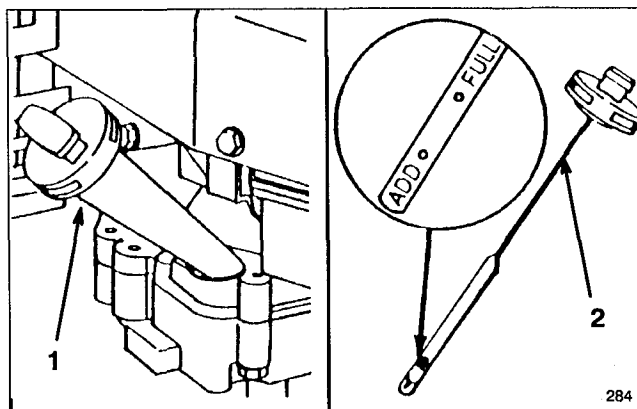

Figure 6
Fill crankcase with SAE 30 oil until oil level reaches FULL mark on dipstick as shown in Figure 6. The maximum crankcase capacity is 0.75 liters (25 ounces) of oil. Use any high quality detergent oil having the American Petroleum Institute (API) "service classification"—SF, SG or SH.
Before each use, ensure oil level is between ADD and FULL marks on dipstick (Fig. 6). Add oil if level is low.
3. Wipe dipstick and insert it into filler neck. Rotate cap clockwise 1/4 turn. Then remove dipstick and check level of oil (Fig. 6). If level is low, add only enough oil to raise level to FULL mark on dipstick. **DO NOT FILL ABOVE FULL MARK BECAUSE ENGINE COULD BE DAMAGED WHEN STARTED. POUR OIL SLOWLY.**
1. **CHECK OIL LEVEL**—Maintain oil level between ADD and FULL marks as shown on dipstick (Fig. 6).